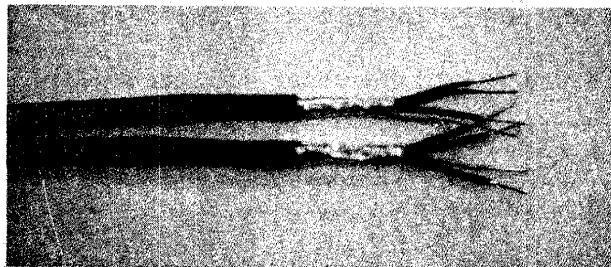

Figure 14
4.09 Place the two prepared wire ends together as shown in Figure 14.